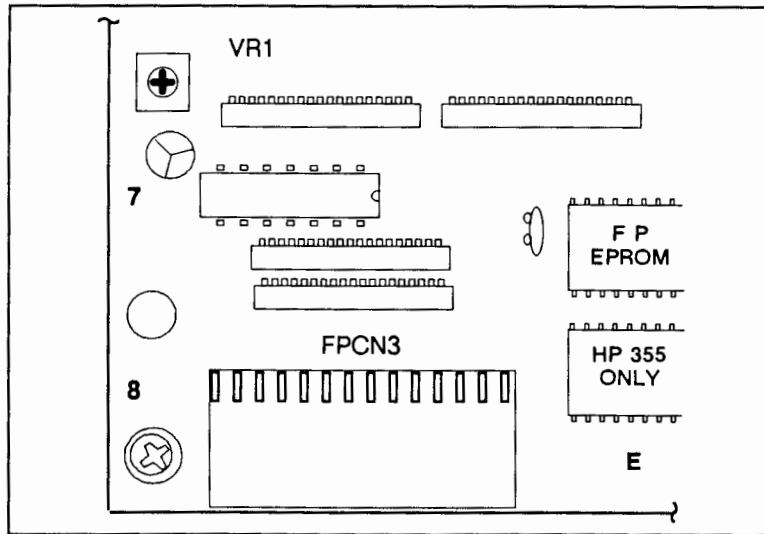

Figure 6-13. Front-Panel Contrast Control
- c. Insert a plastic adjustment tool or a small insulated screw driver through the opening into the control resistor (VR1). See Figure 6-13.